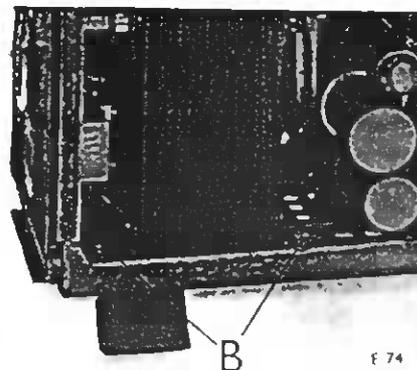

Fig. 21. Replacing the supply transformer
- Remove the four bolts and nuts "B" (Fig. 21).